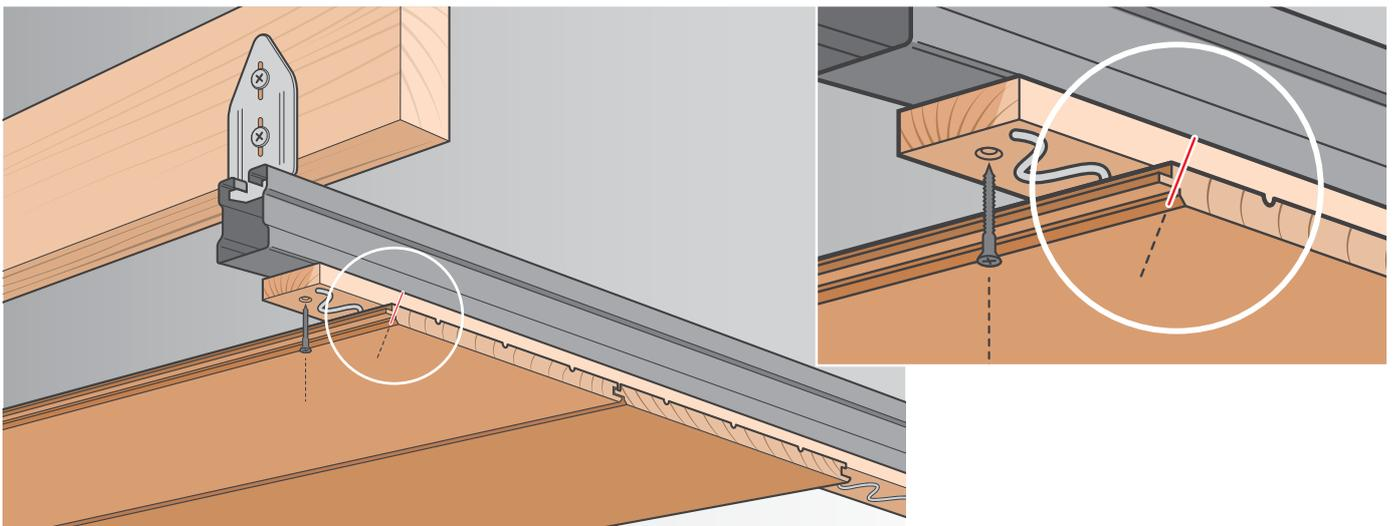

Figure 4: Panelling installation using metal track system / timber batten / secret nail and glue.
- For panelling that cannot use face fixing screws, it is necessary to securely screw a timber batten to the bottom of a metal track, then proceed as per timber framing projects (see Figure 4).